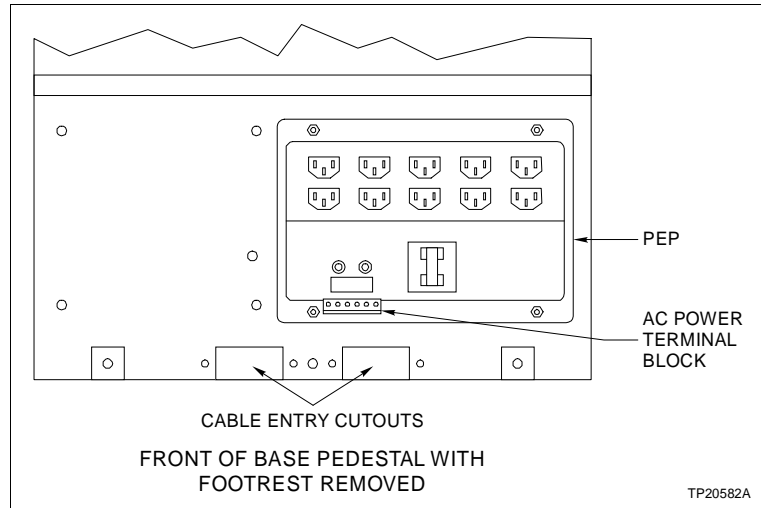

Figure PR25-1. Cable Entry Cutout and PEP Locations
- 2. Bring the power wiring from the service up through one of the cable entry cutouts in the bottom of the base pedestal. Figure PR25-1 shows the location of the cable entry cutouts.